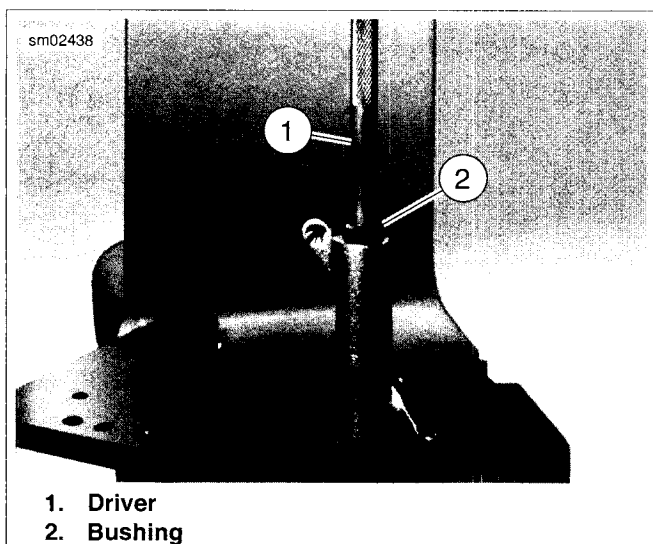

Figure 3-92. Installing Bushing
2. See Figure 3-92. Using a suitable driver, press **new** bushing into side of rocker arm until flush with casting. Be sure to orient bushing so that split line faces top of rocker arm.